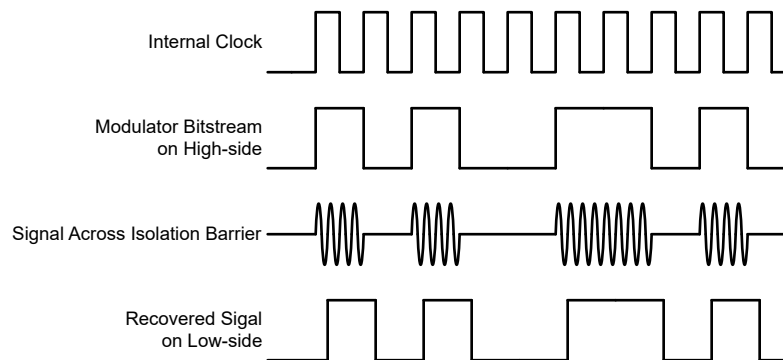

Figure 7-1. OOK-Based Modulation Scheme
As shown in Figure 7-1, the AMC0x11D uses an on-off keying (OOK) modulation scheme to transmit the modulator output bitstream across the SiO₂-based isolation barrier. The transmit driver (TX) is illustrated in the Functional Block Diagram. TX transmits an internally generated, high-frequency carrier across the isolation barrier to represent a digital *one*. However, TX does not send a signal to represent a digital *zero*. The nominal frequency of the carrier used inside the AMC0x11D is 480MHz.